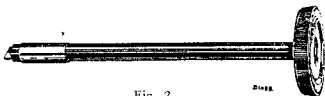

Fig. 2.
5. An insulated trimming screwdriver. Fig. 2.